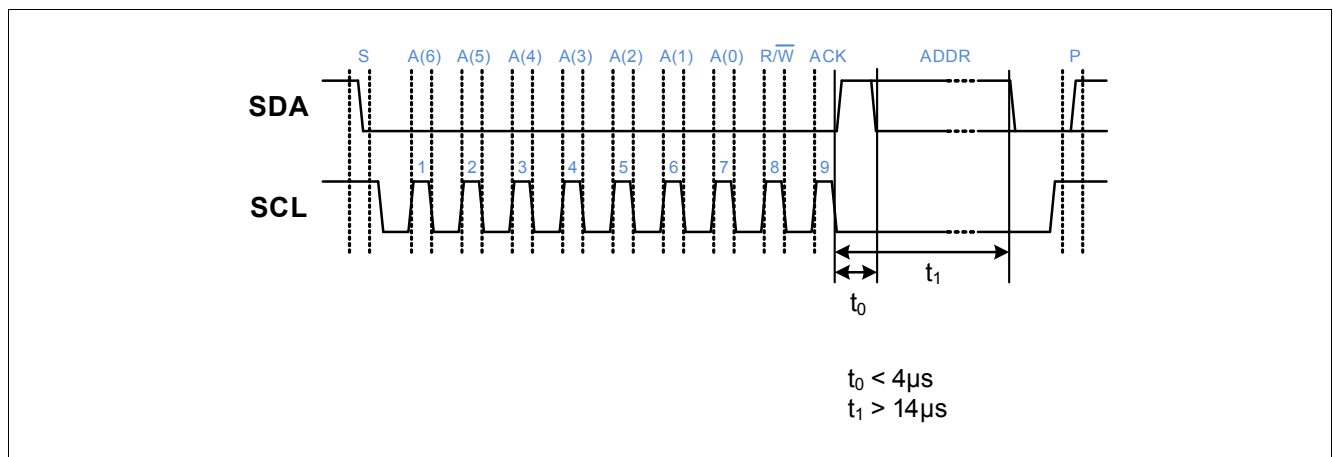

Figure 15 Reset frame 0x00 with address setting
- 2) Set the ADDR of the sensor directly after the reset via a low/high level at SDA. See Figure 15 for timing details.
A general reset is triggered by calling the address 0x00 in the I²C interface. This generates an internal reset, refreshes the fuse register settings and re-reads the SDA/ADR line to initialize the I²C bus address. More timings see Figure 15.